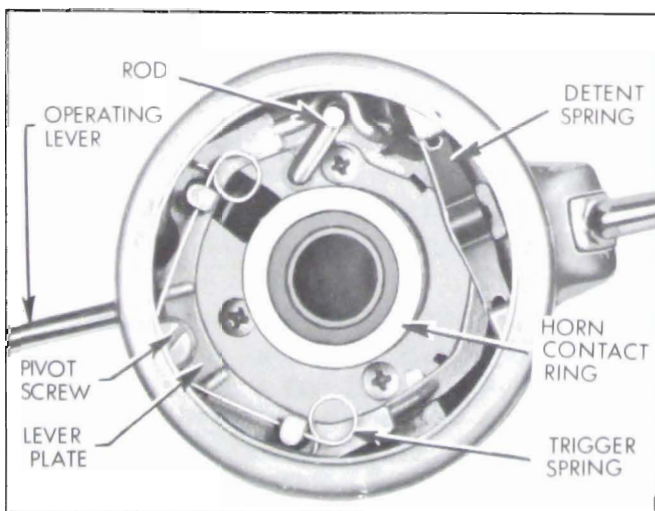
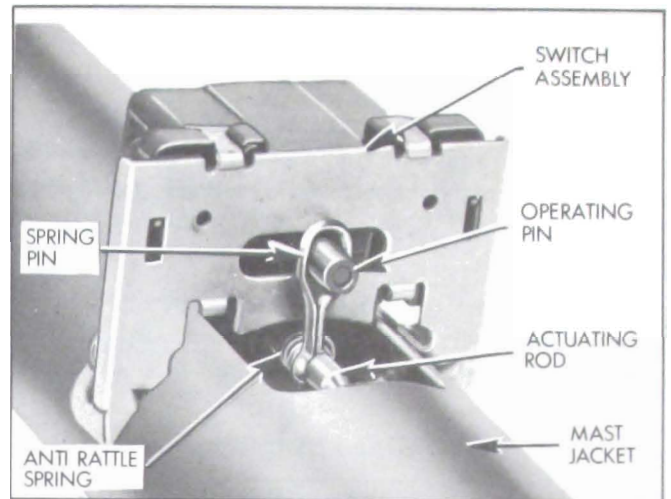

Figure 10-58—Top View of Direction Signal Switch Actuator
Figure 10-59—Direction Signal Switch Installation—Bottom View
3. Adjust to specified current draw if necessary, by turning adjusting screw clockwise to decrease or counterclockwise to increase current draw. See Figure 10-59.
The upper end of the actuating rod is crank shaped and fits in a slot in the lever plate. See Figure 10-58. The lower end of rod is attached to the signal switch by a spring pin which is installed around switch operating pin and through hole in rod. An anti rattle spring located on rod between spring pin and the positioning tab which is part of mast jacket, holds the rod in place. See Figure 10-59.
Also check to see if the spring pin that retains actuating rod to switch pin is properly installed or broken. See Figure 10-59.
2. Loosen two switch mounting screws and move switch sideways on mast jacket until operating pin projecting from switch is centered. See Figure 10-59. Tighten switch mounting screws.
4. Remove direction switch. Remove spring pin and spring from lower end of actuator rod and pull rod out of actuator. See Figures 10-58 and 10-59.